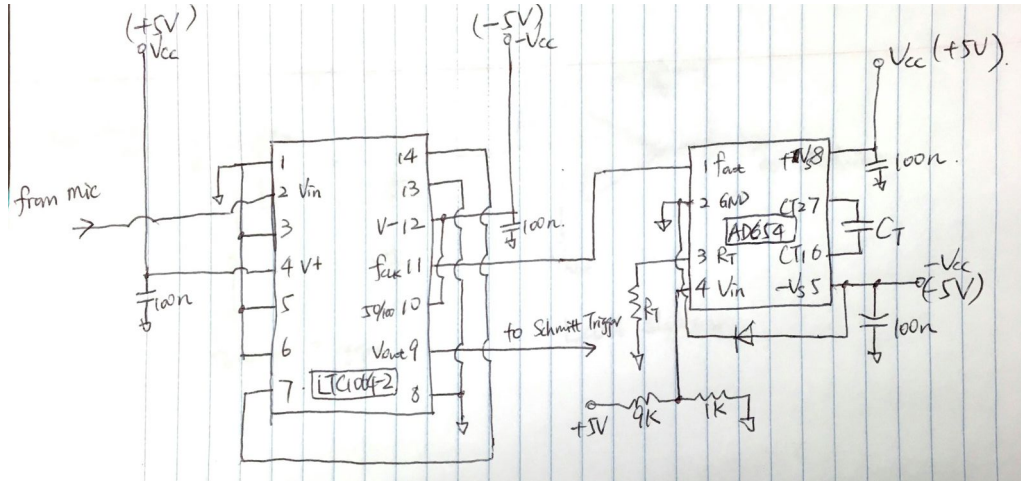

Figure 4. Schematic of low pass filter built with LTC1064-2 and AD654
The amplified guitar signal is then filtered with a switched-capacitor (SC) low-pass filter (LPF). We used an 8th-order Butterworth SC LPF IC chip, the LTC1064-2. The cutoff frequency of the switched-capacitor filter depends on which string is being tuned. The filter cutoff frequency is determined by the input frequency to the LTC1064 chip, which is generated by a voltage-to-frequency converter, the AD654. The circuit schematic is shown below in Figure 4. To be able to vary the output frequency of the AD654 (and thus also the LTC1064 cutoff frequency), we did the following: